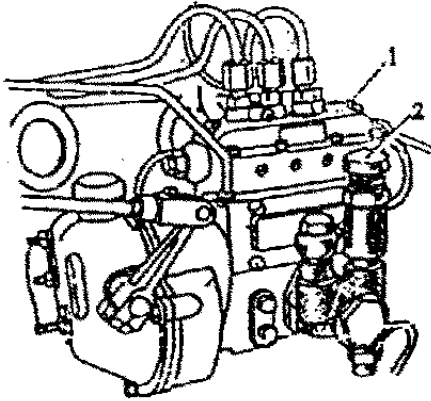

Fig.4-8 Injection Pump
- (4). Push the shut-off lever to the fuel-supplying position.
- (5). Hand throttle in semi-open state (medium fuel supply position).
- (6). Put the control levers of gearbox PTO shaft and front-drive handle in neutral position.
- (7). Insert the key into the preheating switch.
- (8) If restart a tractor being cold or being stored for a long time, loosen the air-releasing screw in injection pump, press with hand the Handle-2 of the pump, and tighten the air releasing screw after the air is released. (Fig. 4-8).